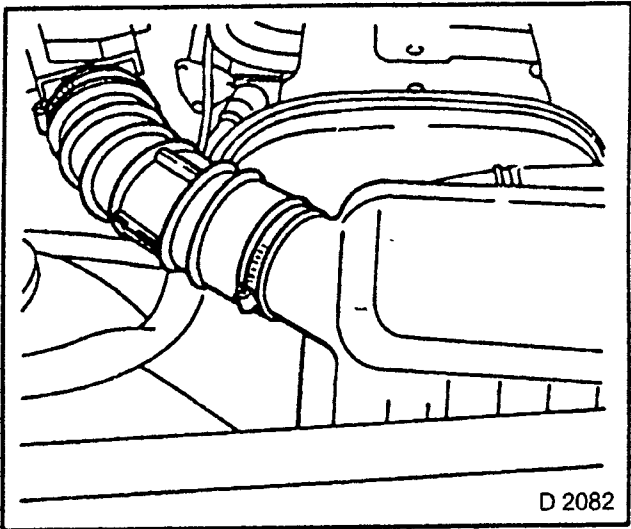

Fig. 374
- Fig. 374 shows C 20 XE engine.